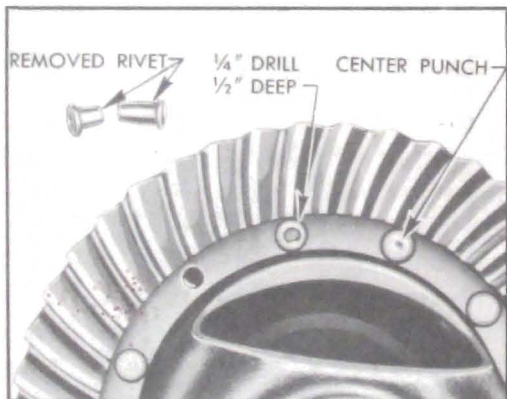

Figure 5-13—Removal of Ring Gear Rivets
1. Center punch all rivet heads on ring gear side, placing marks in center of heads. Drill rivet approximately 1/2" deep with 1/4" drill. See figure 5-13.